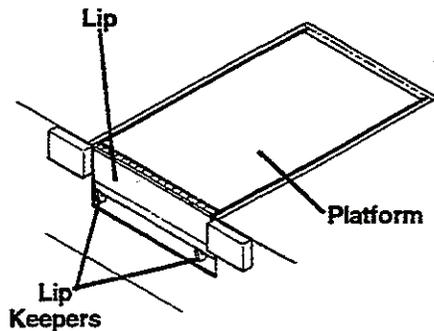

Figure 11
10. Set the leveler in the cross traffic position, with the lip fully folded inside the lip keepers, and the platform level with the dock floor. See Figure 11: